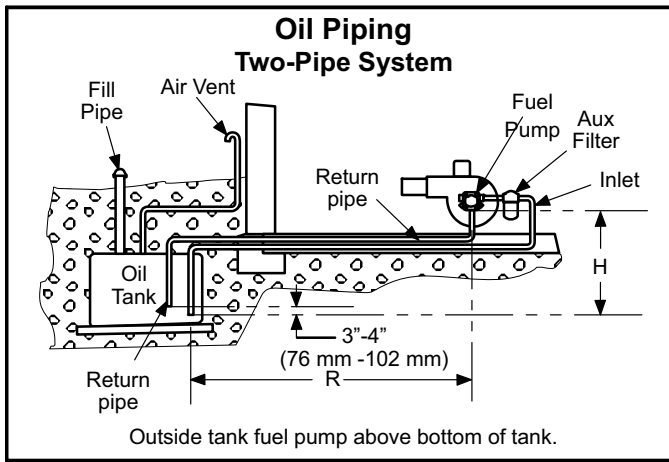

Figure 13
When using a two-pipe system with the oil tank below the level of the burner, use a single-stage fuel pump in lift conditions of up to 10 feet (3 m) and/or a vacuum of 10" (254 mm) Hg or less. See figure 13. Use a two-stage fuel pump when lift exceeds 10 feet (3 m) and/or a vacuum of 12" Hg to 17" Hg. Both conditions require that you use of a two-pipe system, which consists of a return line that purges the fuel pump of air by returning it to the tank. To determine the run and lift for piping, refer to table 4.
- 2 - Insert bypass plug and tighten it. See figure 13.
- 4 - The return pipe must terminate 3" to 4" above the supply pipe inlet. See figure 13.